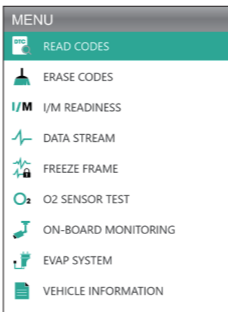

Figure 3.2.2
- To retrieve the DTCs, please select Read Codes (See Figure 3.2.2), and press [OK]. The scan tool will communicate with ECU and present you with DTCs.